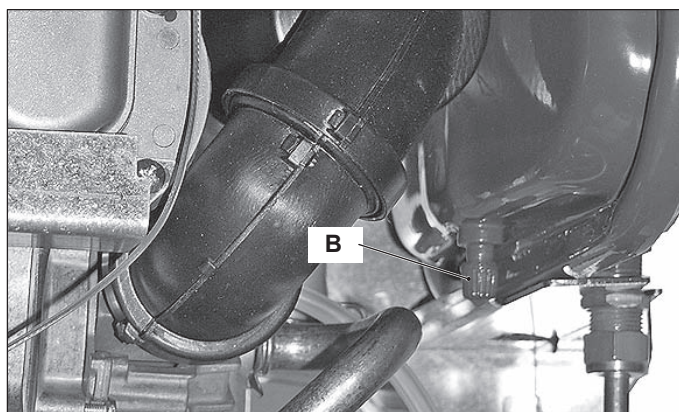

Figure 13.2
- 2 Remove the protective cap B in Figure 13.2 from the valve on the top of the expansion vessel and connect a suitable air pressure gauge.